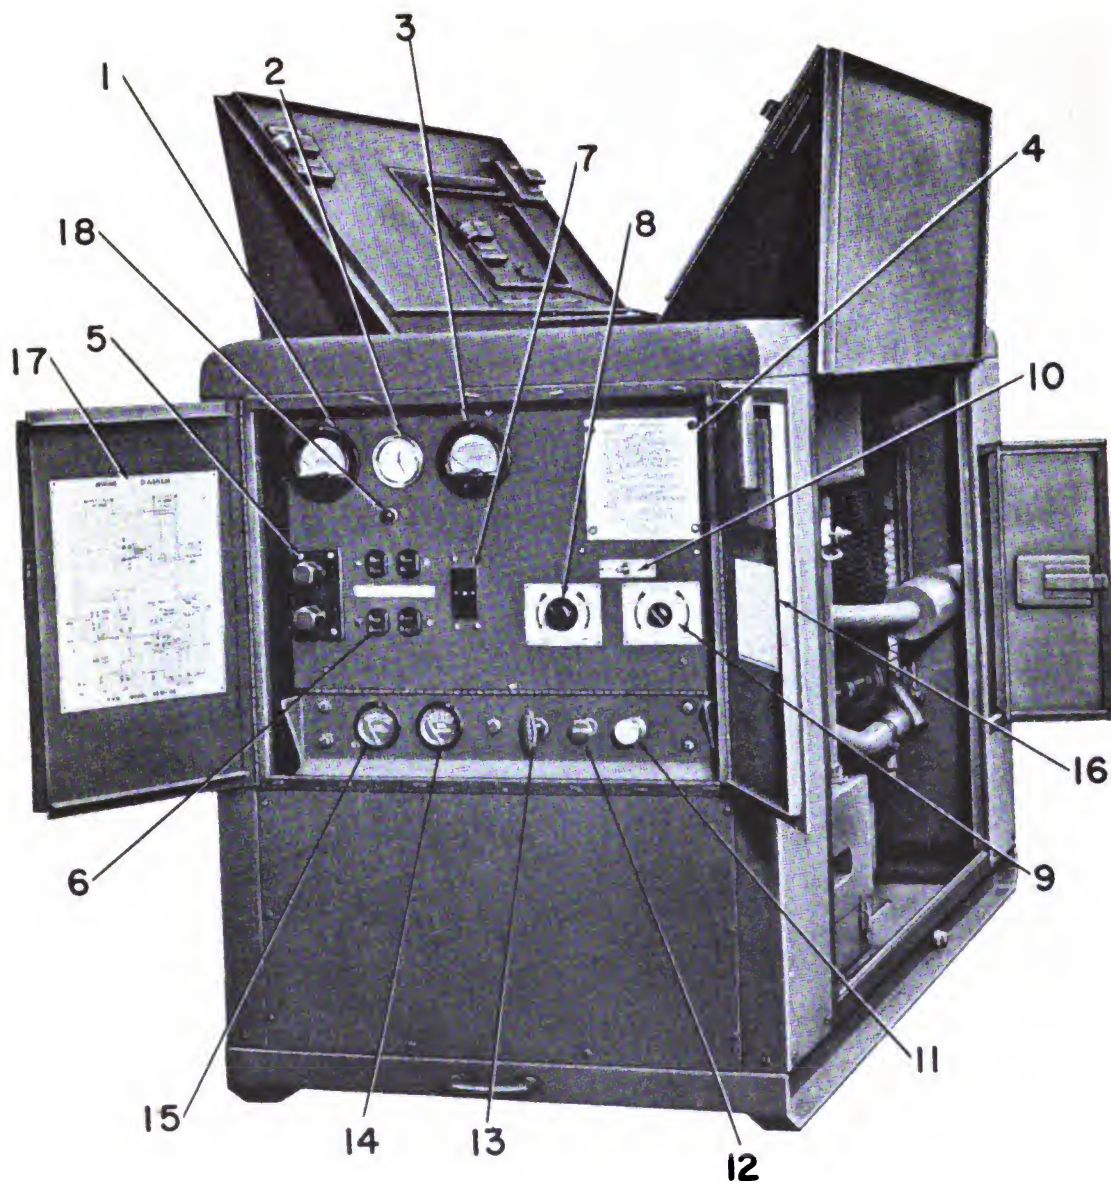

Figure 4—Control Panel
1. With engine running and up to speed, adjust the voltage (see fig. 4) to the desired value.